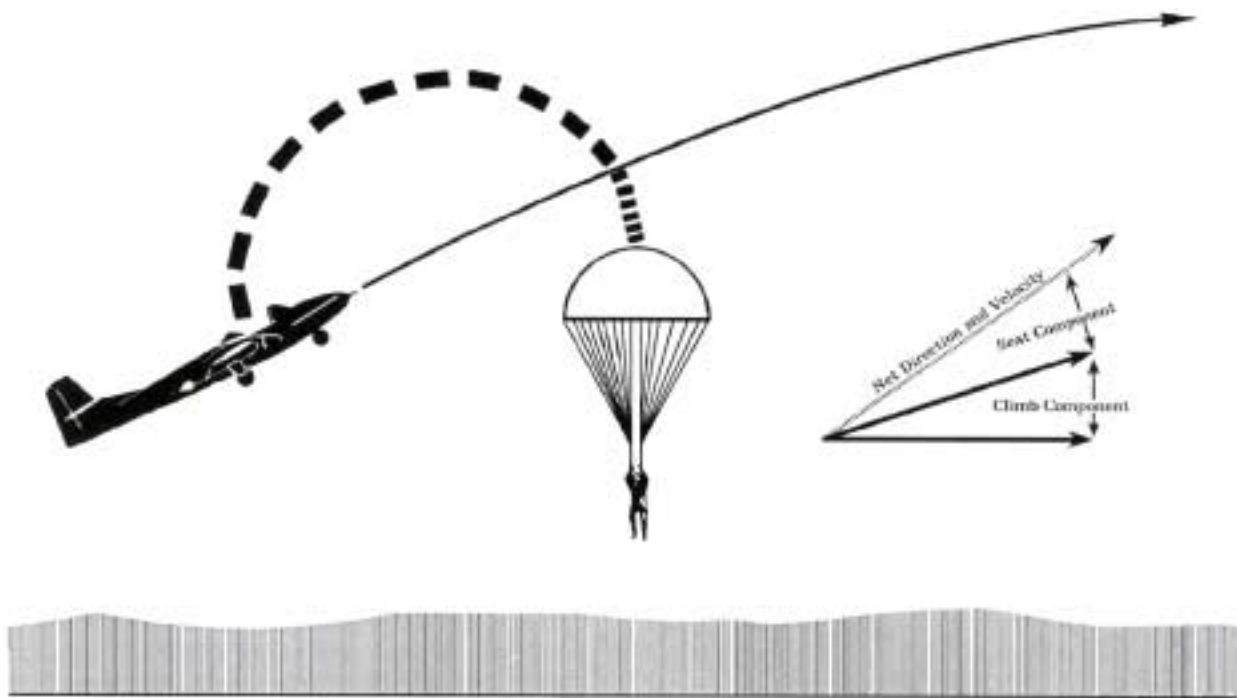

Figure 3-3 — Up Vector
2. Up or down vectors. These factors are critical in determining the success of ejections. An up vector, or climbing aircraft (Figure 3-3), will provide the optimum situation for ejection. You will receive upward thrust from the seat propellant and the aircraft trajectory, providing parachute opening at the maximum possible altitude (if deployment airspeeds exist). A down vector, or diving aircraft (Figure 3-4) presents the worst situations for you during low altitude ejections. The propellant on the highest performance ballistic system cannot overcome the downward vector if minimal ground separation exists; parachute deployment will be restricted or may not occur at all. Ejecting out of the ejection seat's operating envelope is a major cause of low altitude ejection fatalities.